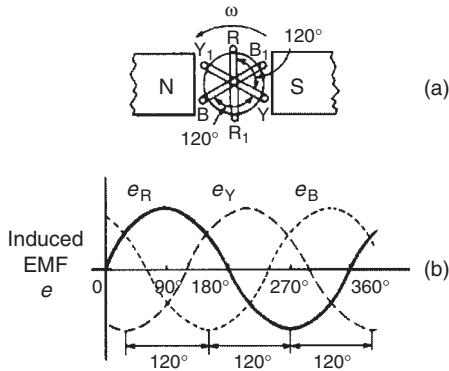

Figure 20.2
A **three-phase supply** is generated when three coils are placed 120° apart and the whole rotated in a uniform magnetic field as shown in Fig. 20.2(a). The result is three independent supplies of equal voltages which are each displaced by 120° from each other as shown in Fig. 20.2(b).
- The convention adopted to identify each of the phase voltages is: R-red, Y-yellow, and B-blue, as shown in Fig. 20.2
If the three-phase windings shown in Fig. 20.2 are kept independent then six wires are needed to connect a supply source (such as a generator) to a load (such as motor). To reduce the number of wires it is usual to interconnect the three phases. There are two ways in which this can be done, these being: